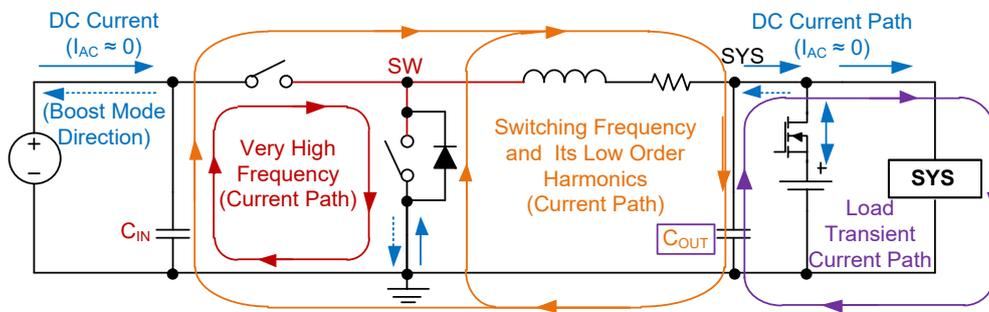

Figure 19. The Paths and Loops Carrying High Frequency, DC Currents and Very High Frequency (for Layout Design Consideration)
The switching node (SW) creates very high frequency noises, which are several times higher than f_{SW} (1.5MHz) due to sharp rise and fall of the voltage and current in the switches. To reduce the ringing issues and noise generation, it is important to design a proper layout for minimizing the current path impedance and loop area. A graphical guideline for the current loops and their frequency content is provided in Figure 19. The following considerations can help to make a better layout.